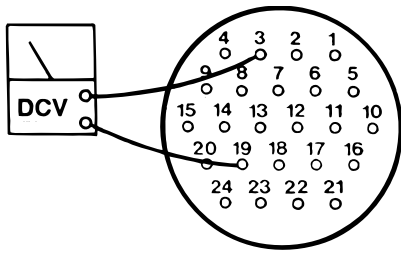

Figure 6-15. Connector CN14
1. Disconnect the Pendant Control connector from the base connector, connect all other connectors and use a DC voltmeter to measure the following sockets located in the table base connector CN14. See figure 6-15 for pin locations.